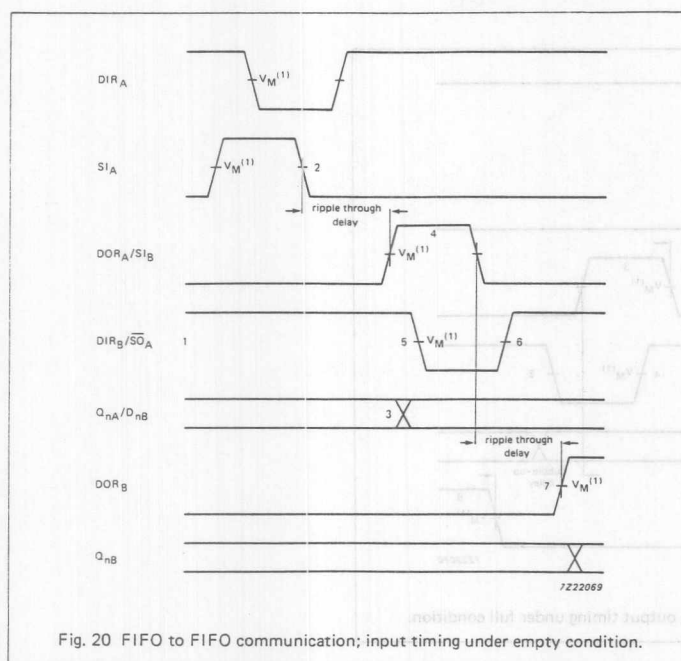

Fig. 20 FIFO to FIFO communication; input timing under empty condition.
Fig. 20 shows the signals on the nodes of both FIFOs after the application of a SI pulse, when both FIFOs are initially empty. After a rippled through delay, data arrives at the output of FIFO_A. Due to \overline{SO}_A being HIGH, a DOR pulse is generated. The requirements of SI_B and D_{nB} are satisfied by the DOR_A pulse width and the timing between the rising edge of DOR_A and Q_{nA}. After a second ripple through delay, data arrives at the output of FIFO_B.
Notes to Fig. 20
1. Applies to the phase comparator section only (VCO disabled). For power dissipation of VCO and demodulator sections see Figs 20, 21 and 22.